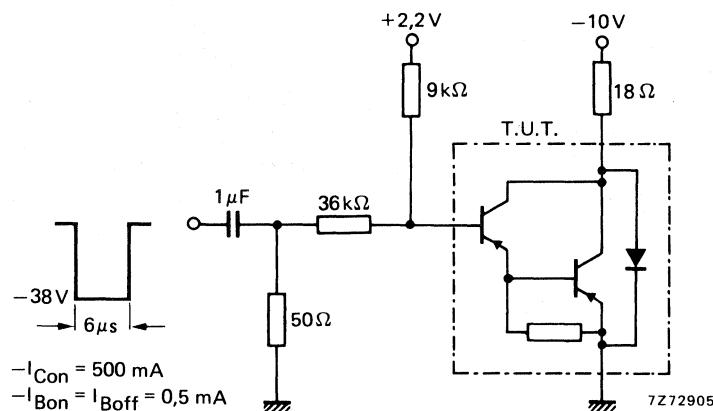
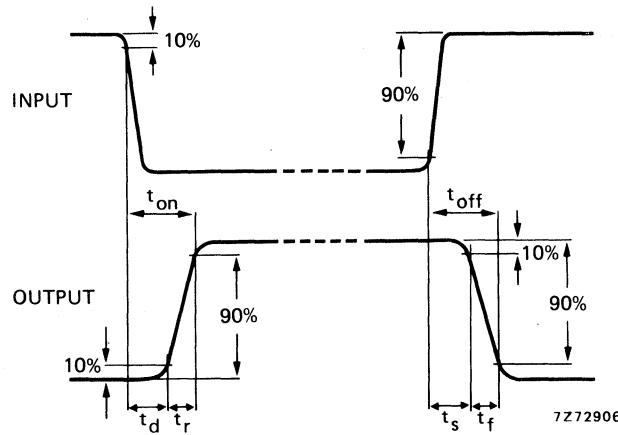

Fig. 3 Test circuit for 500 mA switching.
Fig. 4 Switching waveforms.
**Switching times (see also Fig. 3 and Fig. 4)**